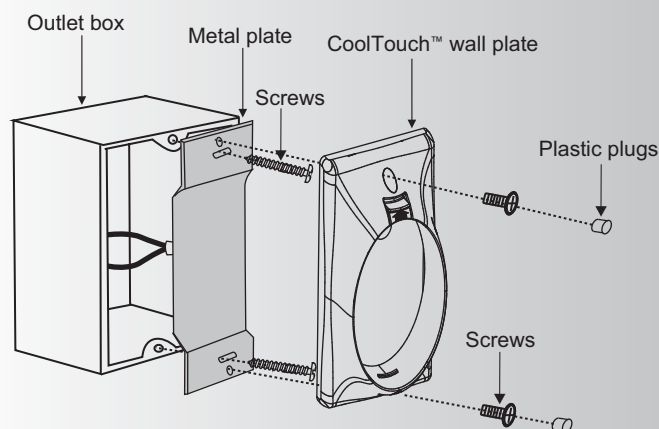

Fig. 25
Step 2. Install the metal plate and CoolTouch™ wall plate to the existing wall outlet box with 4 screws provided. Then place the two plastic plugs into the wall plate. (Fig. 25)